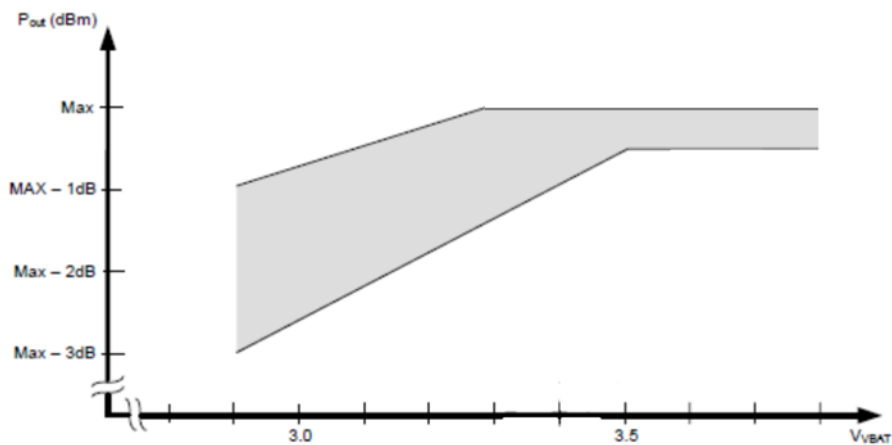

Figure 3-2: Output Power vs. VCC voltage
- 3) TX Output power varies with temperature as shown in Figure 3-2